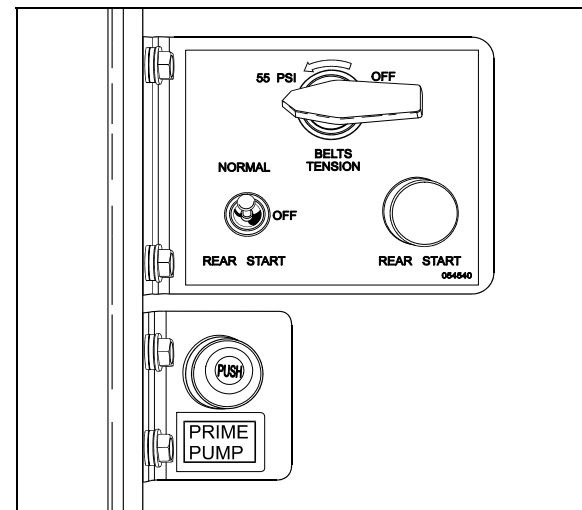

FIGURE 10: PRIME PUMP SWITCH LOCATION
- If the vehicle is equipped with the optional priming pump see Figure 10.